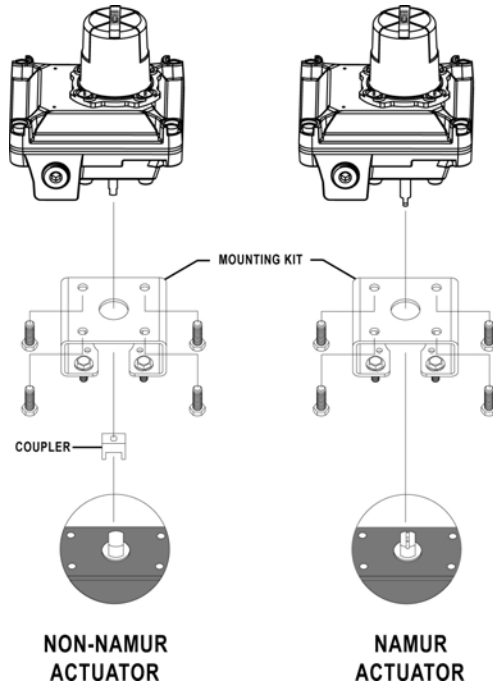

Fig. 1
2. Attach the mounting bracket and coupler (if required) to the unit housing and shaft with the hardware provided (see Fig. 1).